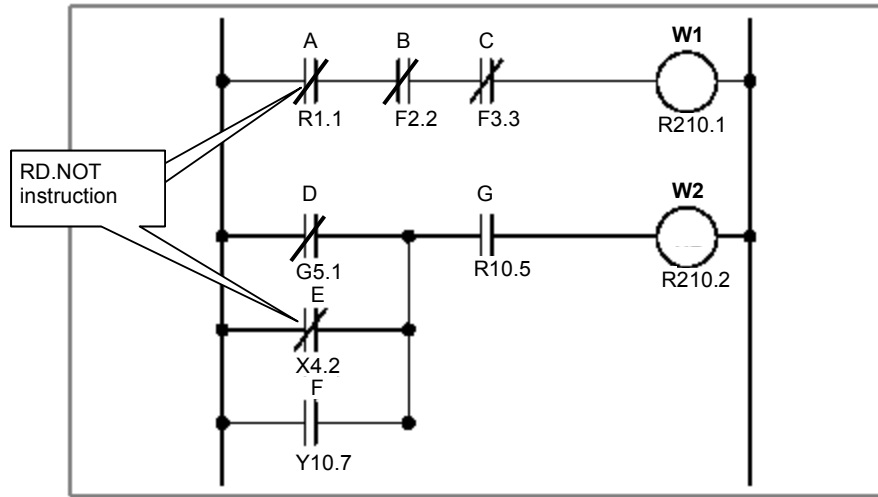

Fig. 4.1.3
- (1) Use this instruction to start coding from contact B (-|/|-). For examples of how the RD.NOT instruction is used, see the ladder diagram shown in Fig. 4.1.3 and the input example in the mnemonic format given in Table 4.1.3.
- (2) The instruction reads and reverses the logical status of the signal at the specified address and sets it in the ST0 bit.